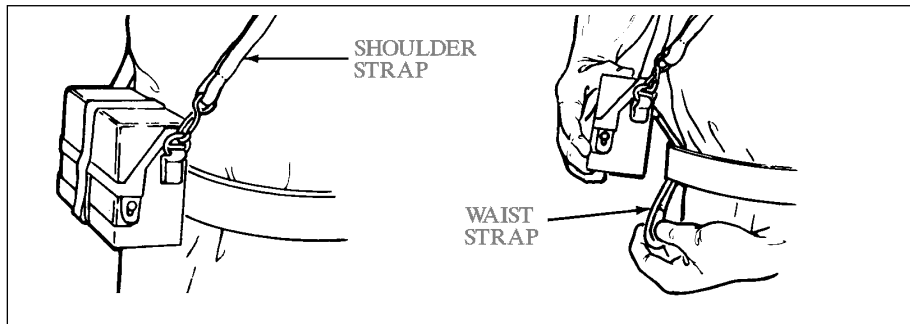

Fig 4-8. Belt attachment.
- (1) Ready the kit.
- (2) Fasten the kit to the belt, hooking the waist belt-attachment strap to belt (fig 4-8).